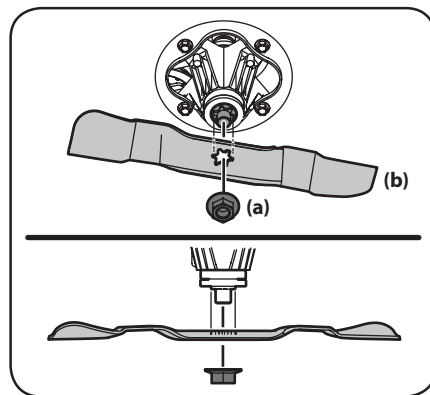

Figure 4-9
- Replace or sharpen the blades. To properly sharpen the cutting blades, remove equal amounts of metal from both ends of the blades along the cutting edges, parallel to the trailing edge, at a 25° to 30° angle. Always grind each cutting blade edge equally to maintain proper blade balance. See Figure 4-9.